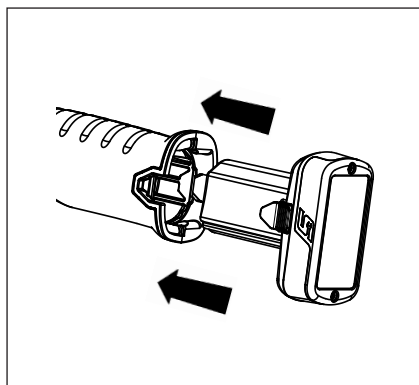

Figure 3: Inserting Battery Pack
1. Insert a fully charged CTB series battery into the base of the tool, as shown in Figure 3.